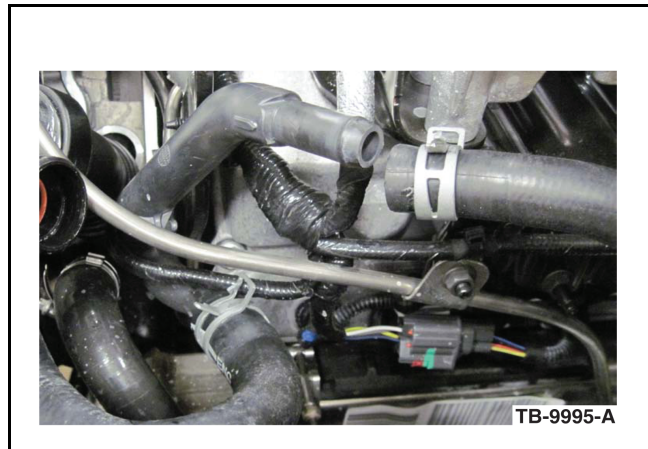

Figure 5 - Article 10-7-5
7. Disconnect heater return hose at the heater return port. (Figure 5)